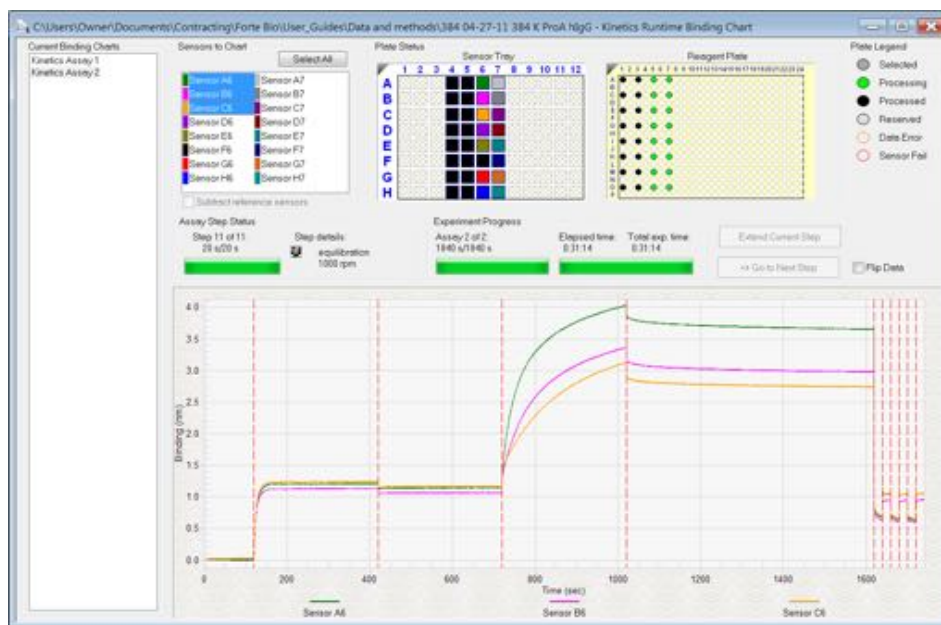

Figure 10-91: Runtime Binding Chart Window
If the **Open runtime charts automatically** check box is selected in the Run Experiment window, the Runtime Binding Charts are automatically displayed when data acquisition starts (see Figure 10-91). The **Runtime Binding Chart** window displays the assay step status, experiment progress, and the elapsed experiment time.
2. Select a subset of sensors for a displayed column under **Sensors to Chart** box (see Figure 10-91).